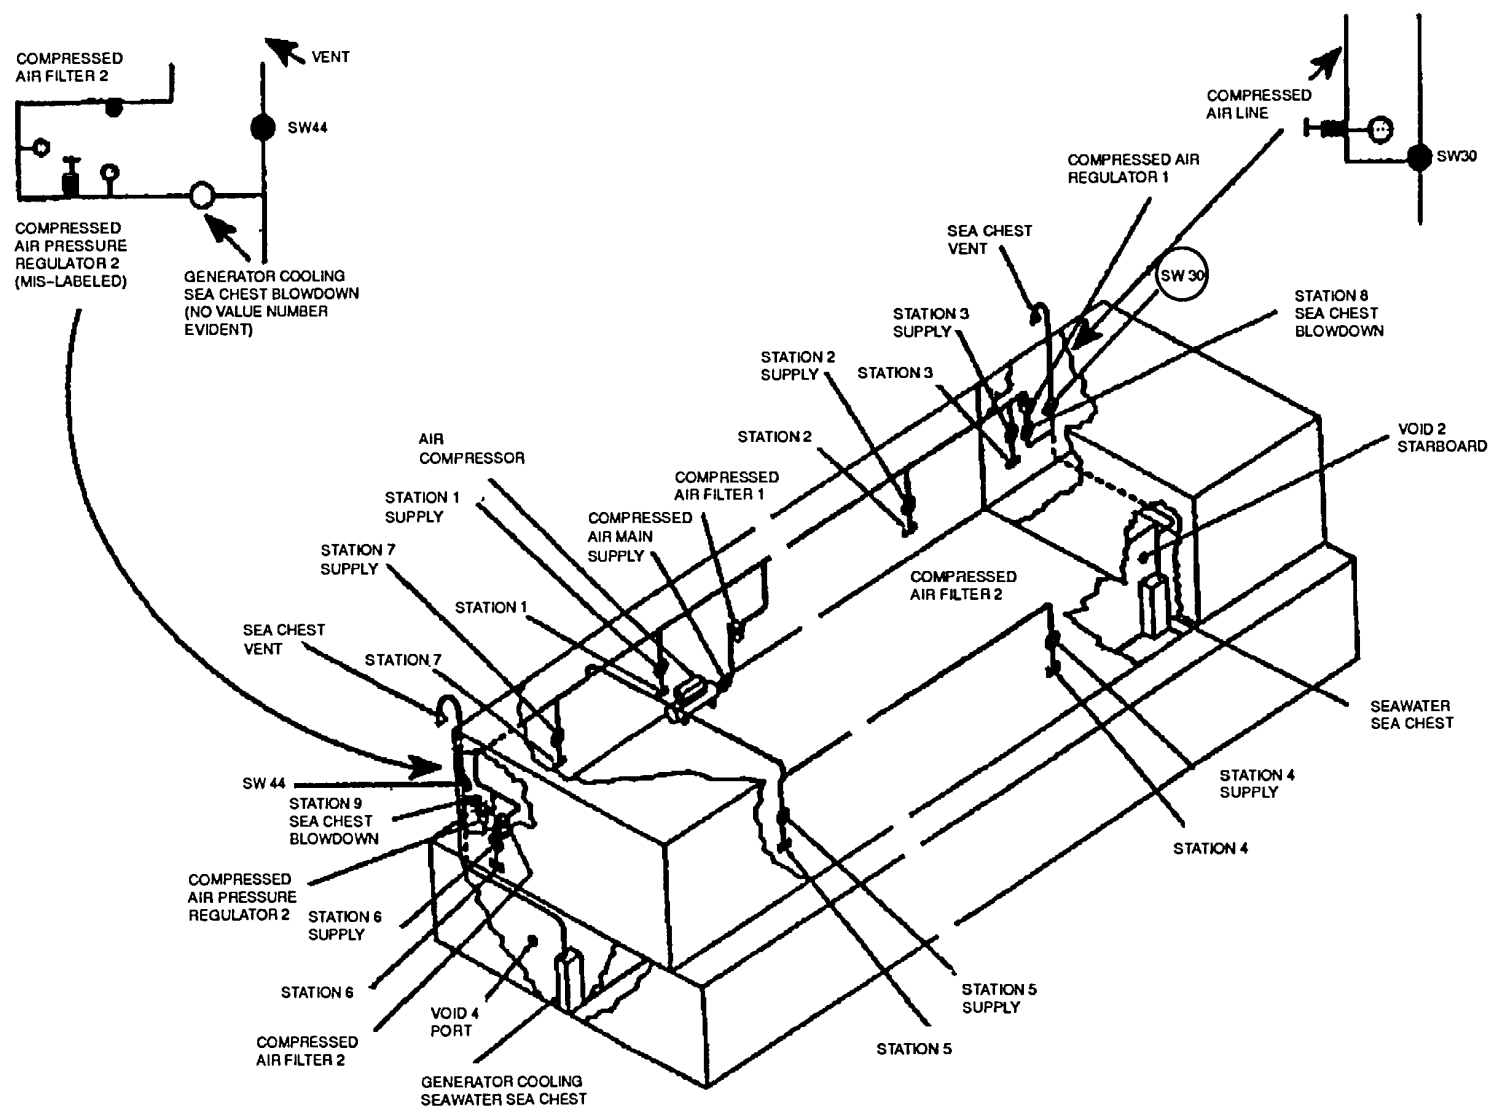

Figure 1-3. Location of Compressed Air System Components - Barges 2 and 3
**1-7 Description.** This system provides compressed air to five air stations in the ROWPU space, one in the workshop, and one on stern weatherdeck. It also provides compressed air to two air stations for blowdown of seachests in void 2 starboard and void 4 port. These outlets, with other major components, valves, and piping are shown schematically in Figure 1-2 for Barge 1 and in Figure 1-3 for Barges 2 and 3. System outlets are listed in Table 1-1. In addition, this system is shown in drawings listed in Appendix A.